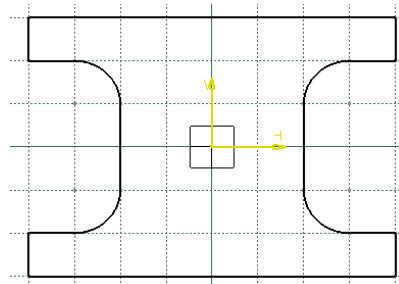

Figure 2-56 The sketch after drawing the outer loop and hiding the constraints
21. Move the cursor vertically downward and click to specify the endpoint of the line when it snaps to the start point of the outer loop. The sketch after drawing the outer loop and hiding the constraints is shown in Figure 2-56.